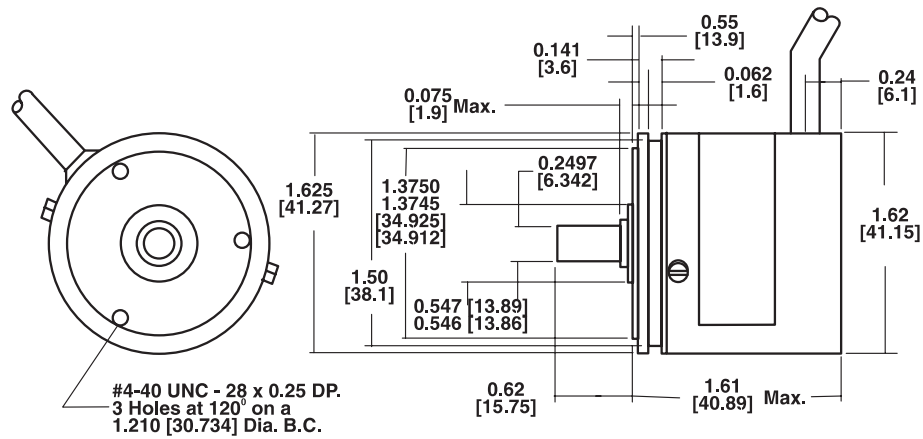

FIGURE 10
6. Using customer supplied mounting bracket, mount PG1 in such a way as to bring the wheel into contact with measuring roll selected in Step 4 (See Figure 10).